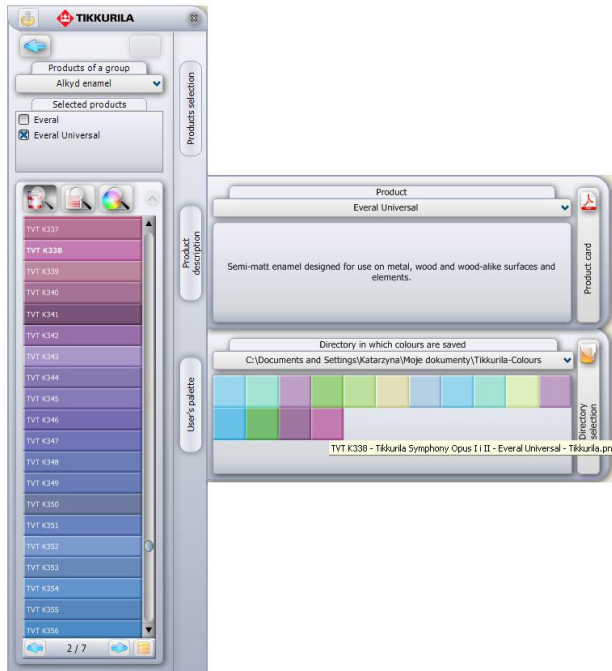

Fig. 228 – an effect of the selection by the code, and adding the product to the User Palette and the description display
- Type the code in here and confirm by clicking  (Fig. 228) (the capitalization does not matter);